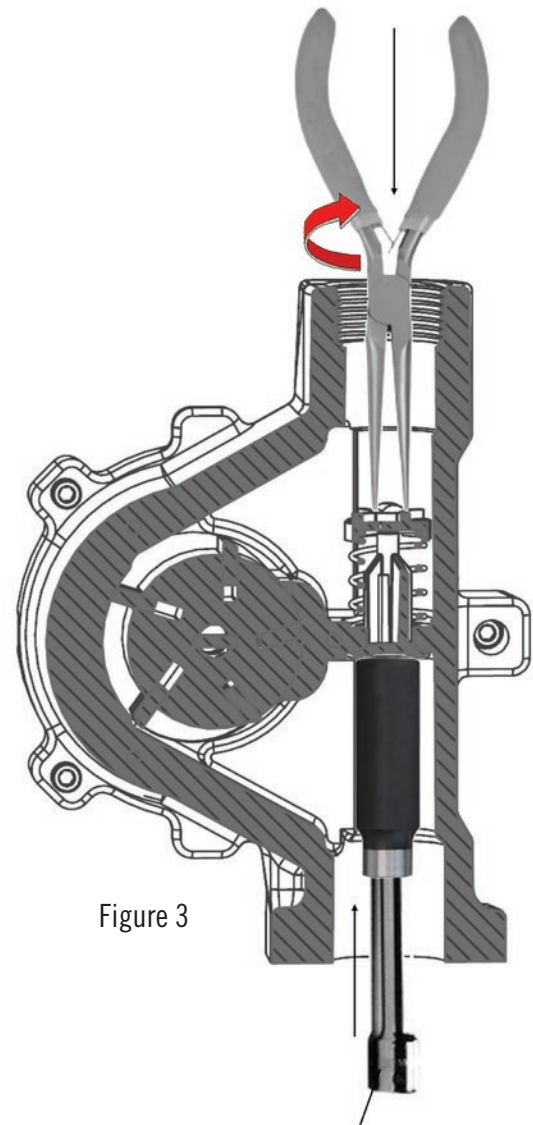

Figure 3
The bypass valve consists of three components (Figure 3):
4. Using a blunt object approximately 4" long (i.e. a deep well socket on an extension) inserted in the inlet opening, push the bypass valve firmly in place against the seat it seals on (Figure 3).
5. While holding the Bypass Valve firmly in place with the socket, insert needle nose pliers (at least 4" long) into the outlet opening and grasp the Bypass Valve Retainer (Figure 3).